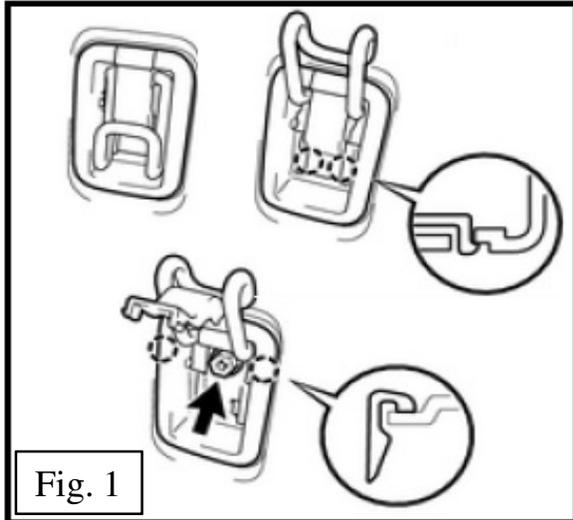

Fig. 1
3. In the rear cargo area, locate 3 cargo net hook tie downs. Using a 10mm socket and ratchet, temporarily remove (Fig.1).